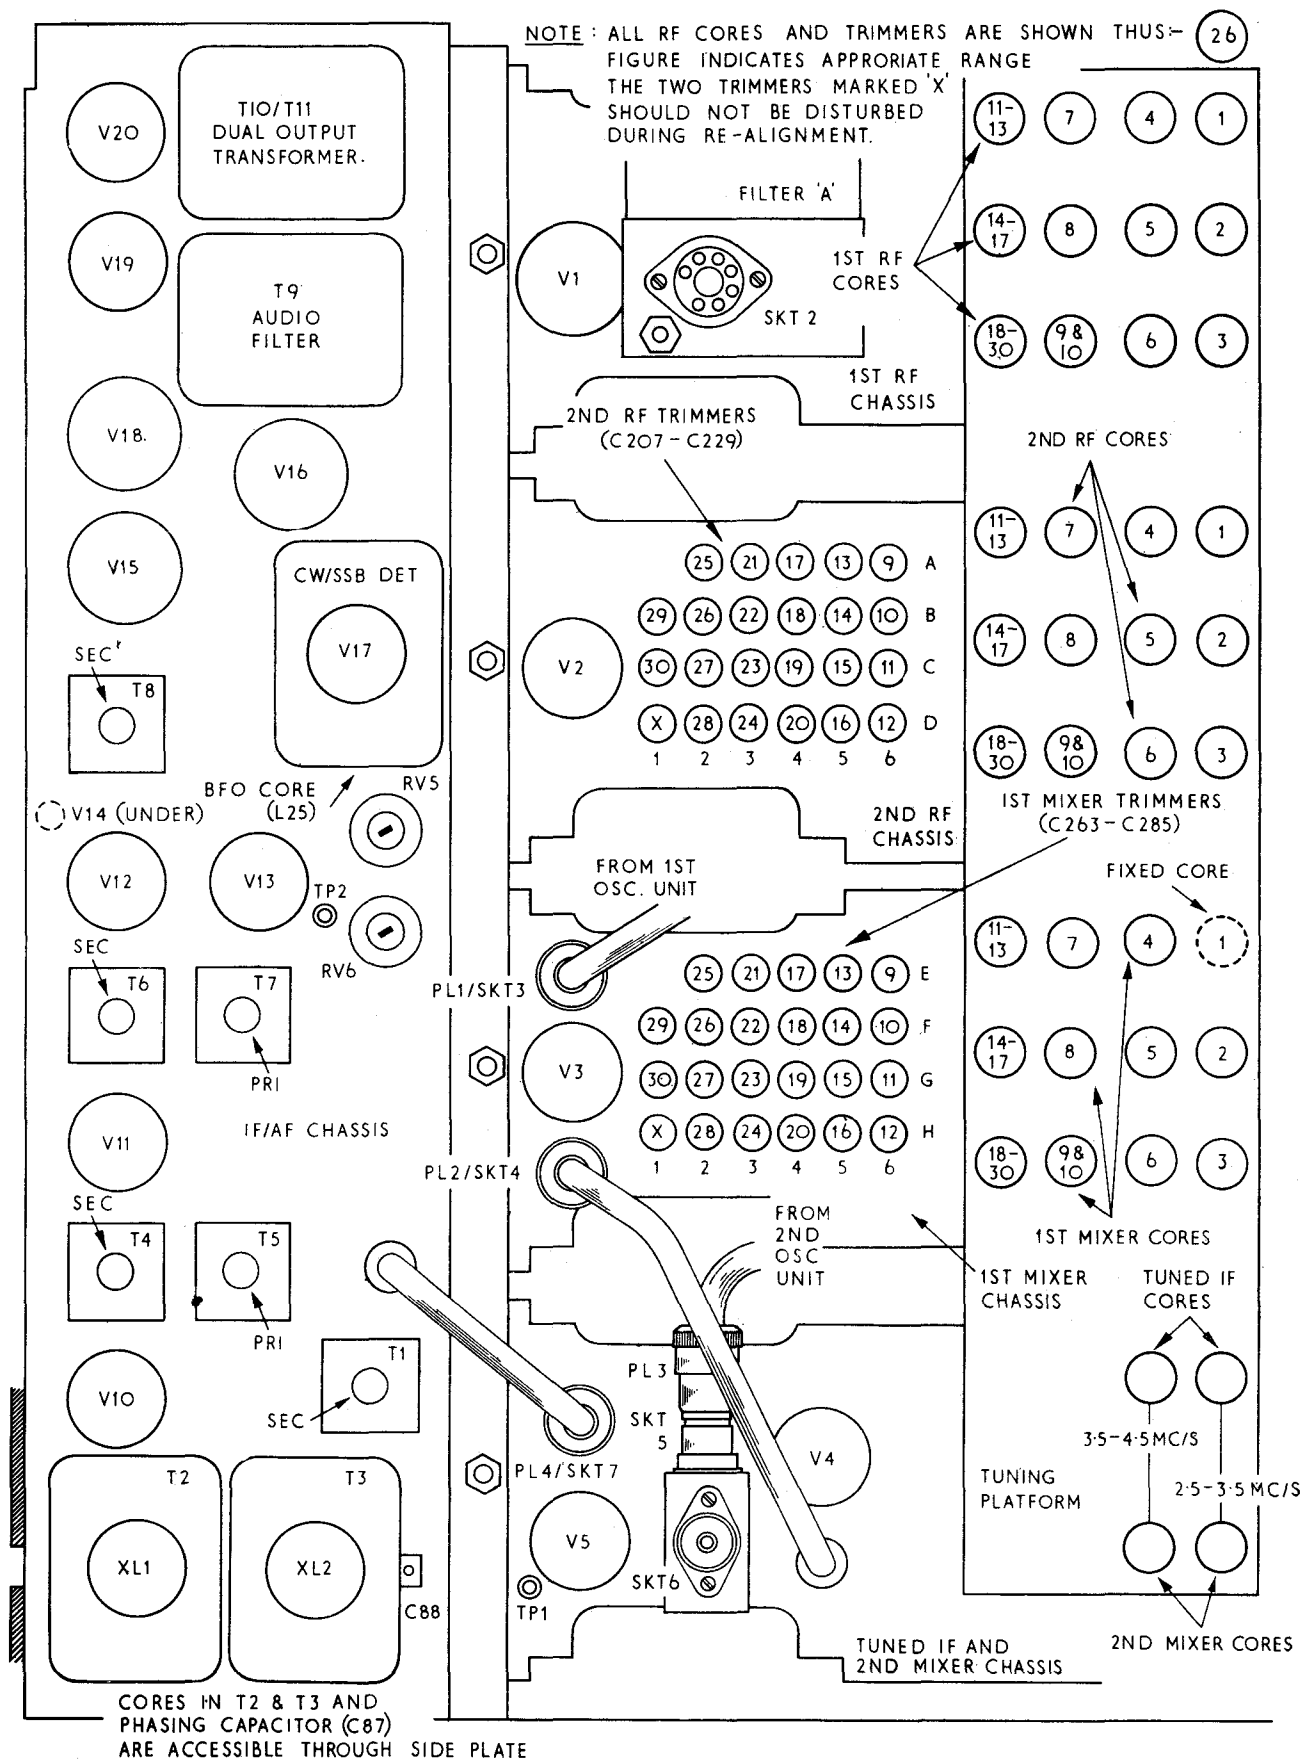

Fig. 7. Part top view showing location of major components and all RF/IF Trimming Adjustments.
This is a sub-miniature wired-in type and is located on the underside of the IF/AF chassis (see Fig. 7)
2. The cover can now be lifted clear and V14 located by reference to Fig. 7.
The two dual crystals (XL1 and XL2) used in the bandpass filters are standard envelope types on B7G type bases. When replacements are fitted it is most important to replace the screening cans and to ensure that the crystal unit with the closest crystal spacing is inserted in the left-hand socket (receiver viewed from front — see Fig. 7).
The complete 2nd IF Section (including the 2nd Mixer, V5) can be checked by introducing a modulated 500 kc/s signal at TP1 (adjacent to V5 — see Fig. 7). The sensitivity should be of the order 1uV for an output of 50mW at the 2.5 ohm terminals (Bass switch and IF/AF Gains at maximum, AGC and NL off).
2. All cores are provided with hexagonal bores which run completely through their centres. This allows adjustment of the lower core from the top side of the chassis when the special Neosid trimming tool (Type H.S.I.) is used. This tool has a shank of reduced diameter which makes it possible to pass one end of the tool right through the top core for adjustment of the lower core. Reference can be made to Fig. 7 for identification of primary and secondary windings. The lower core in each case is, of course, opposite to the one indicated. All cores are self-locking with rubber string and locking compound.
The phasing capacitor (C87) which is used in the 'CRYSTAL 1' position is reached through the upper alignment hole. C88, the 'CRYSTAL 2' phasing capacitor, has a small spindle sleeve which protrudes through the right-hand side of the screening can (see Fig. 7). The sleeve is provided with holes so that the capacitor can be adjusted with a small tommy bar.
Connect the sweep generator output lead to the Test Point (TP1) which is located close to the 2nd Mixer Stage, V5. It will be necessary to remove the RF cover to make connection to TP1, the location of which is shown in Fig. 7. Reference to the Main Circuit Diagram will show that the generator output is applied direct to the grid of V5 and it is suggested that this stage is operated as a straight amplifier by taking out PL3 to isolate the injection from the 2nd Local Oscillator Unit. Operation of the stage in this manner will prevent spurious beats due to any harmonic content in the generator output mixing with the oscillator and appearing on the display trace.
A further Test Point (TP2) is provided for ease of connection from the diode load (R75) to the Oscilloscope 'Y' plate amplifier. TP2 is located close to V13 (see Fig. 7) and a screened lead should be used to make connection to it.